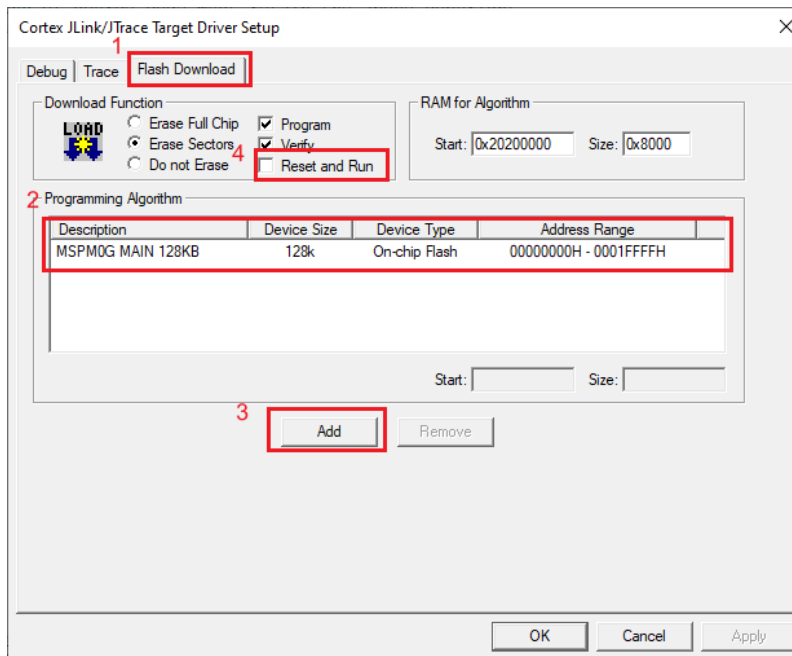

Figure 3-50. Flash Download Setting
- Click on the *Flash Download* tab and check whether the description matches Figure 3-50. If this does not match, then click on the *Add* button and select the corresponding MSPM0 MAIN option. The device type is *On-chip Flash*. At last select *Reset and Run*.